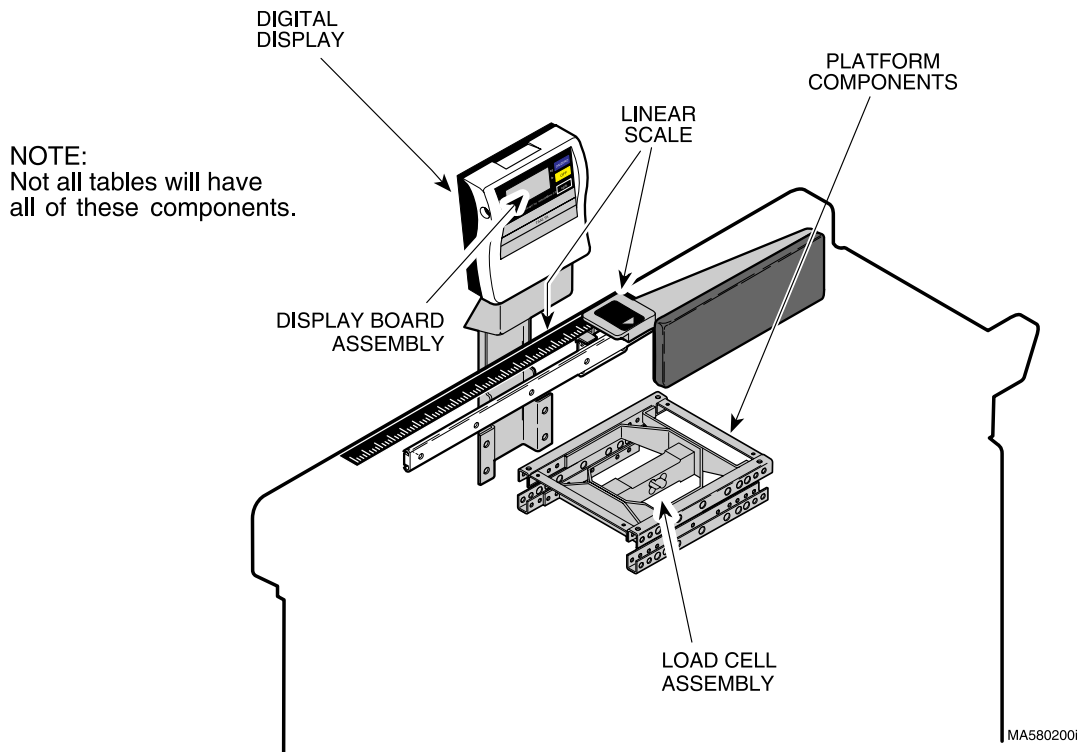

Figure 1-1. Major Components
A. General Description (See Figure 1-1).
The major serviceable components of the 309-001 & 309-003 table (table with mechanical scale) are the beam scale components which include the "0" balance screw & weight, platform components, linear scale, and table top locking mechanism. The major serviceable component of the 309-002 & 309-004 table (table without mechanical scale) is the linear scale (See Figure 1-1).
The major serviceable components of the 309-005 table (table with digital scale) are the digital display (which includes display board assembly), platform components (which includes load cell assembly), and linear scale. The major serviceable component of the 309-006 table (table without digital scale) is the linear scale (See Figure 1-1).